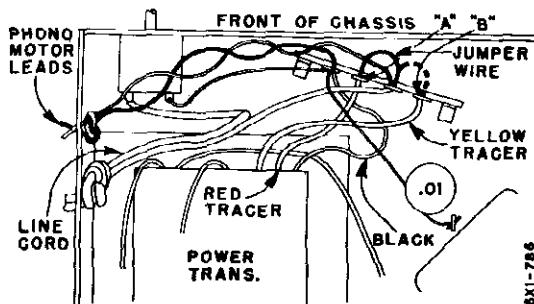

Figure 1. Bottom View of Chassis Showing Jumper Wire
**CONVERTING THE RADIO** To convert the radio from 110 volts to 220 volts, unsolder one end of the Jumper Wire at point "A" and solder it to point "B". See figure 1. To convert from 220 volts to 110 volts, reverse the procedure.